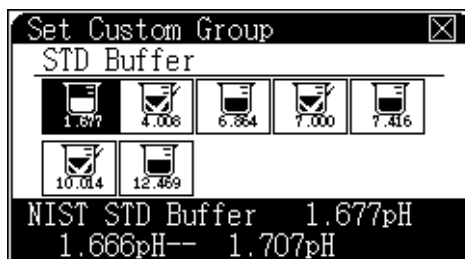

Figure 17 Modifying a buffer
- 3 Use the arrow keys to highlight the target buffer group and press **[Setup]**. The display is shown in Figure 17.